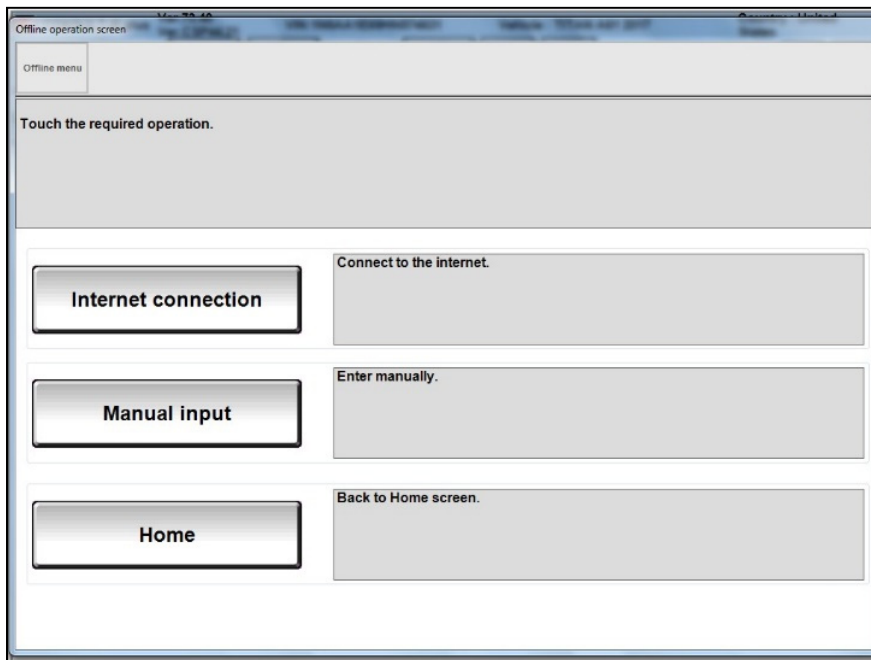

Figure 19
- Figure 19 may display if the CONSULT PC is not connected to the internet.